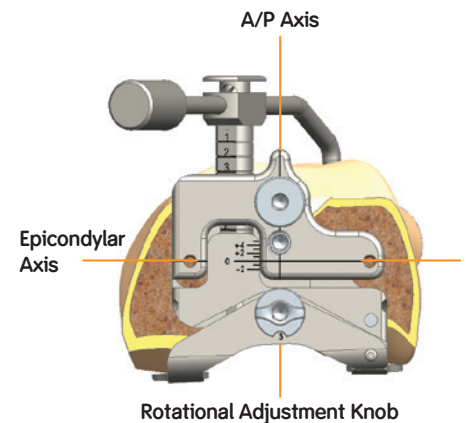

Figure 21
4. Ensure the medial paddle contacts the posterior medial condyle. Begin with the rotational knob set to 3°. If adjustment is needed, use a hex screwdriver to align laser marks (Figure 21) with epicondylar and/or A/P axis.